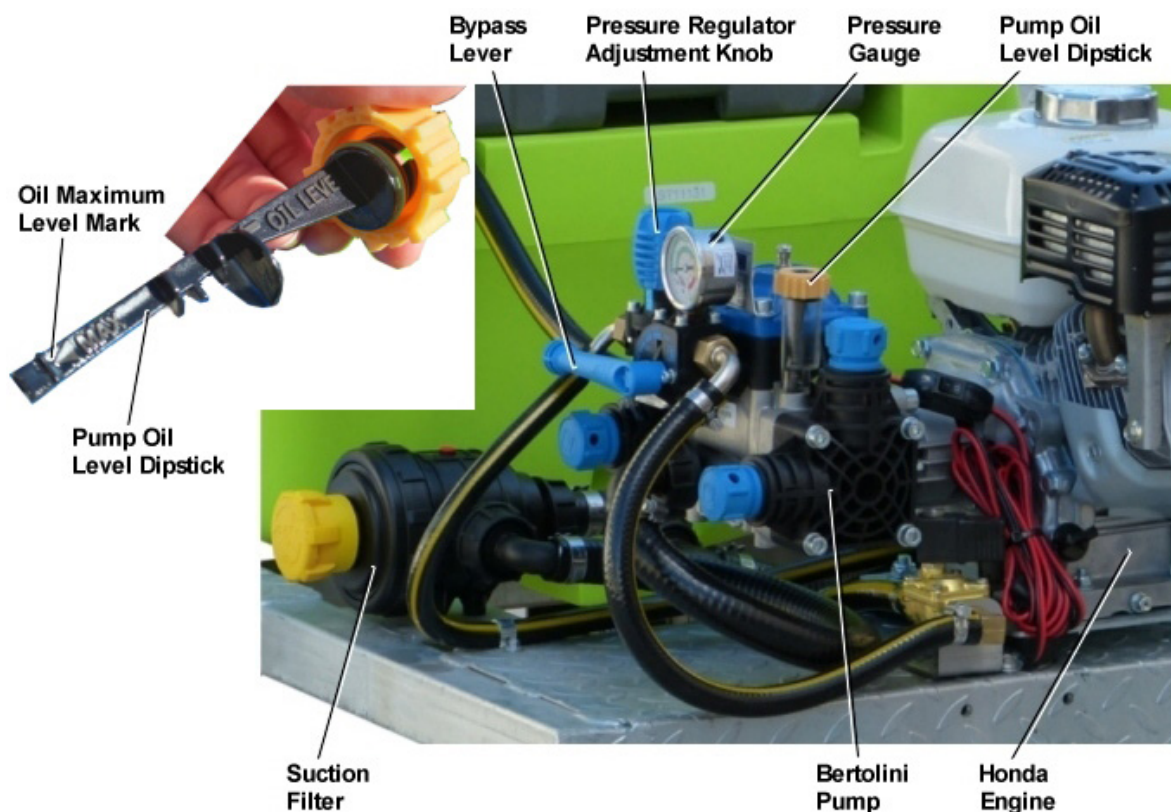

Figure 14 – Bertolini Pump and Suction Filter (typical)
4	Check pump oil level, top up as required (refer to Figure 14, 22L and 34L/min Bertolini pumps only)
3. Unscrew the suction filter cover (refer to Figure 14) and remove the filter screen and gasket. Soak the filter screen in clean water, brushing carefully with a nozzle brush. When re-assembling, ensure the gasket is in position.
4. For the 22L and 34L/min Bertolini pump, check the oil level, refer to Figure 14.